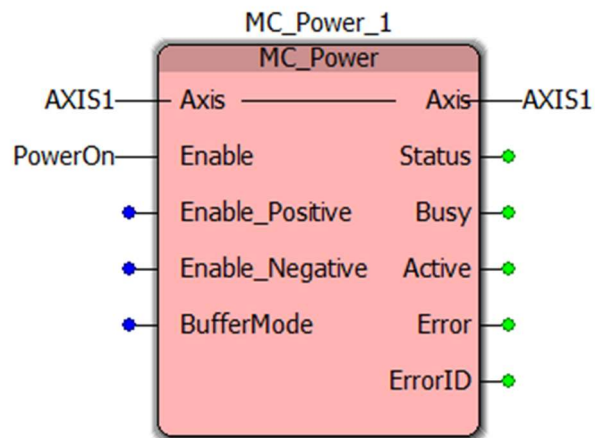

Figure 6: MC_Power Final Product
- The final product should look like Figure 6